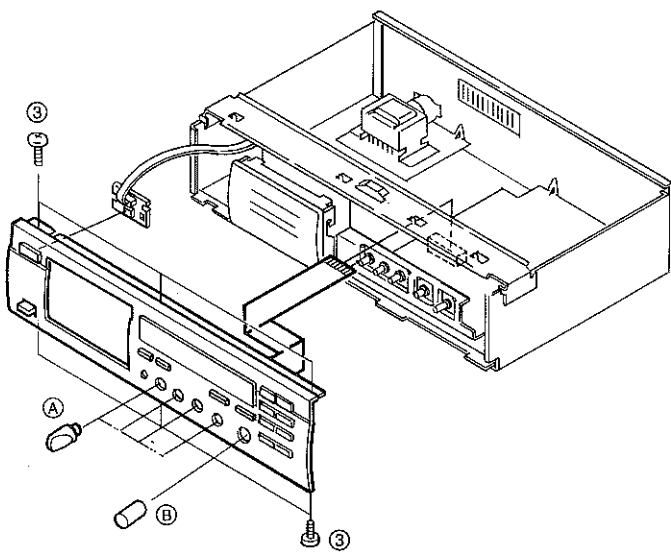

Fig. 2
- a. Remove 6 screws (③) in fig. 2.
- b. Remove 5 knobs (A, B) in fig. 2.
- c. Detach the hook and remove the main circuit board (4).